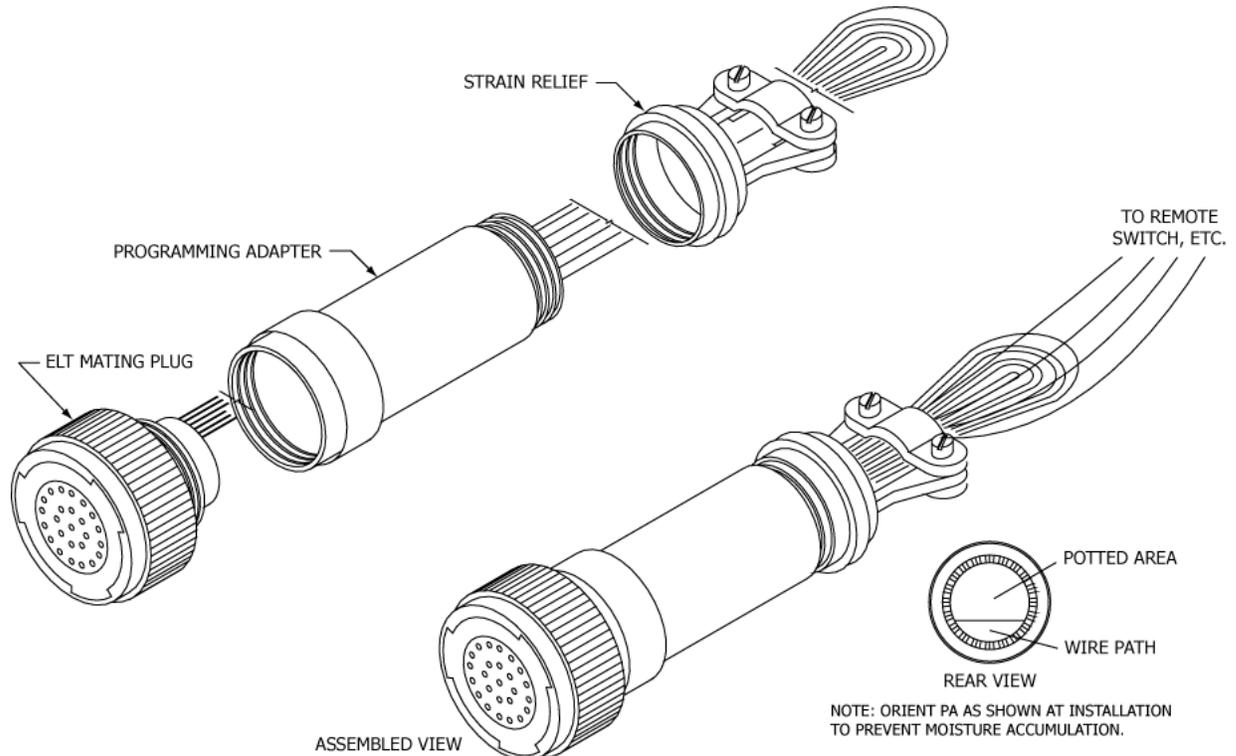

Figure 29 Programming Adapter
- 1) The PA circuitry is encapsulated in the back shell extension and has six wires, with pre-installed contact sockets, that exit the rear of the PA. See Figure 29 Programming Adapter.
- 2) If the PA is undergoing installation on an aircraft with an existing ELT and remote switch harness, perform the following procedure, otherwise proceed to Step (3):
- 3) Loop the PA wires back through the wire path such that they exit at the front of the PA. See Figure 29 Programming Adapter on page 70.
- 1) Screw the PA body (i.e., back shell extension) onto the ELT plug, taking care not to twist the wires while rotating the back shell extension coupling. See Figure 29 Programming Adapter on page 70 for PA body orientation.